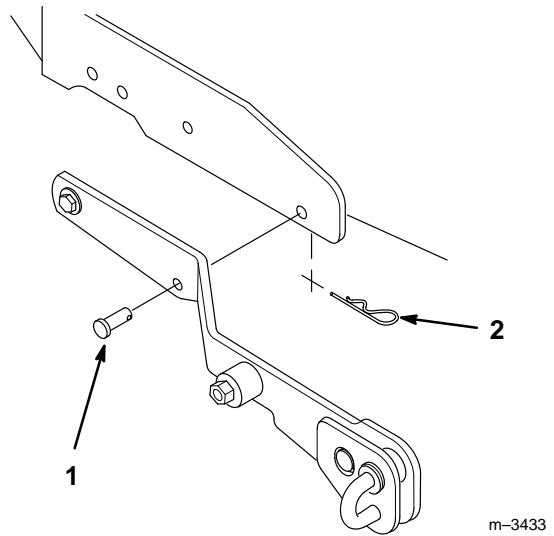

Figure 7
4. Install a 3/8" x 1" (25 mm) clevis pin into each side of the lift assembly in the positions shown in Figure 7. Secure them with (2) hairpin cotters.